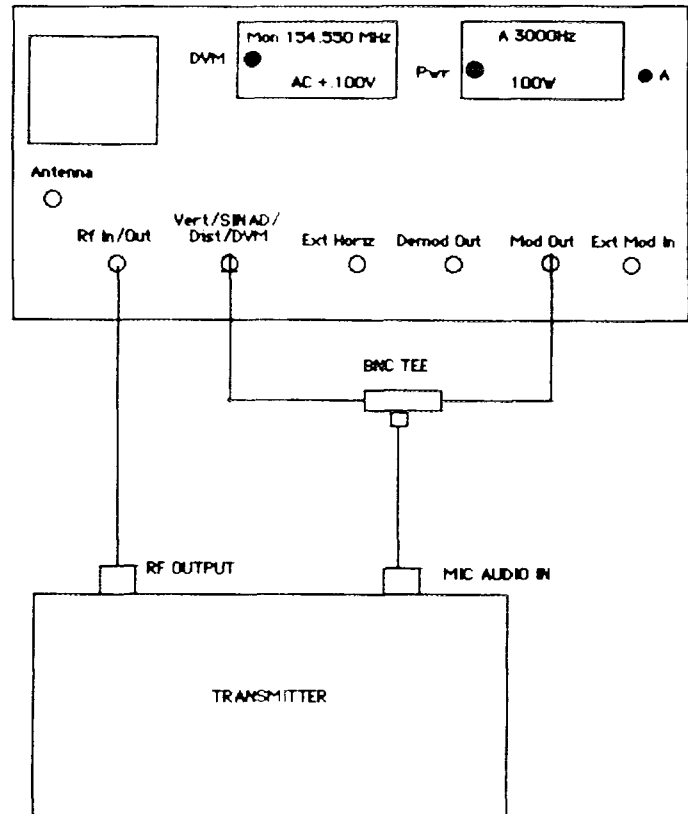

FIGURE 5.7 – TRANSMITTER AUDIO FREQUENCY RESPONSE
1. As shown in Figure 5.7, connect the service monitor's "RF In/Out" port to the transmitter's RF output and the "Vert/Sinad/Dist" input jack to the "Mod Out" jack through a BNC tee connected to the transmitter's microphone audio input. Disable PL and DPL.